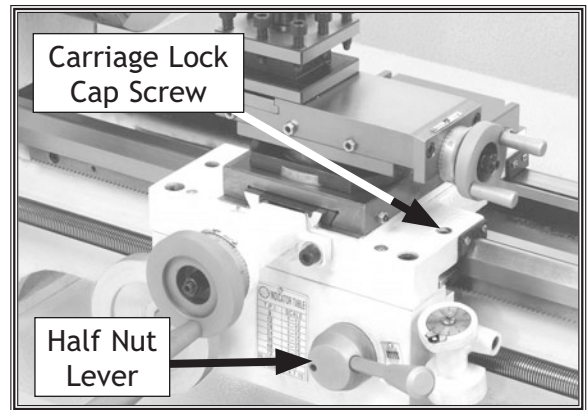

Figure 31. Carriage lock and feed control.
7. Using a 5mm hex wrench, loosen the carriage lock (**Figure 31**), and use the half nut lever to engage and disengage the power feed when required.
7. Using a 5mm hex wrench, make sure the carriage lock is loose (**Figure 31**).